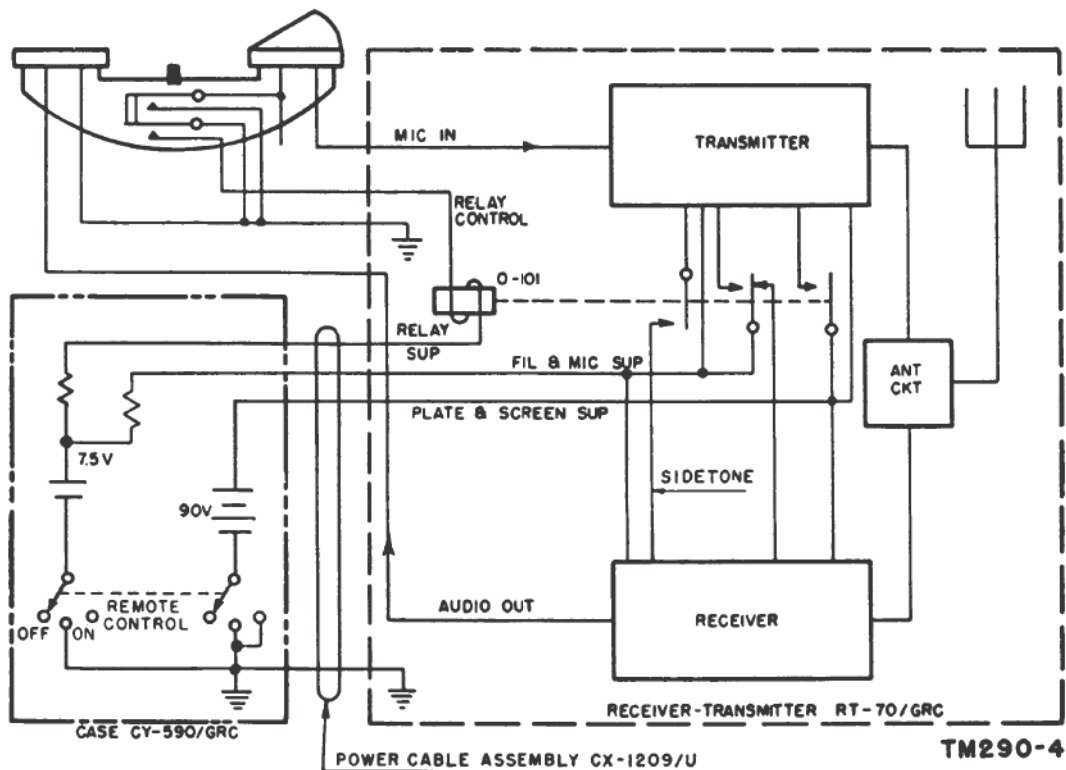
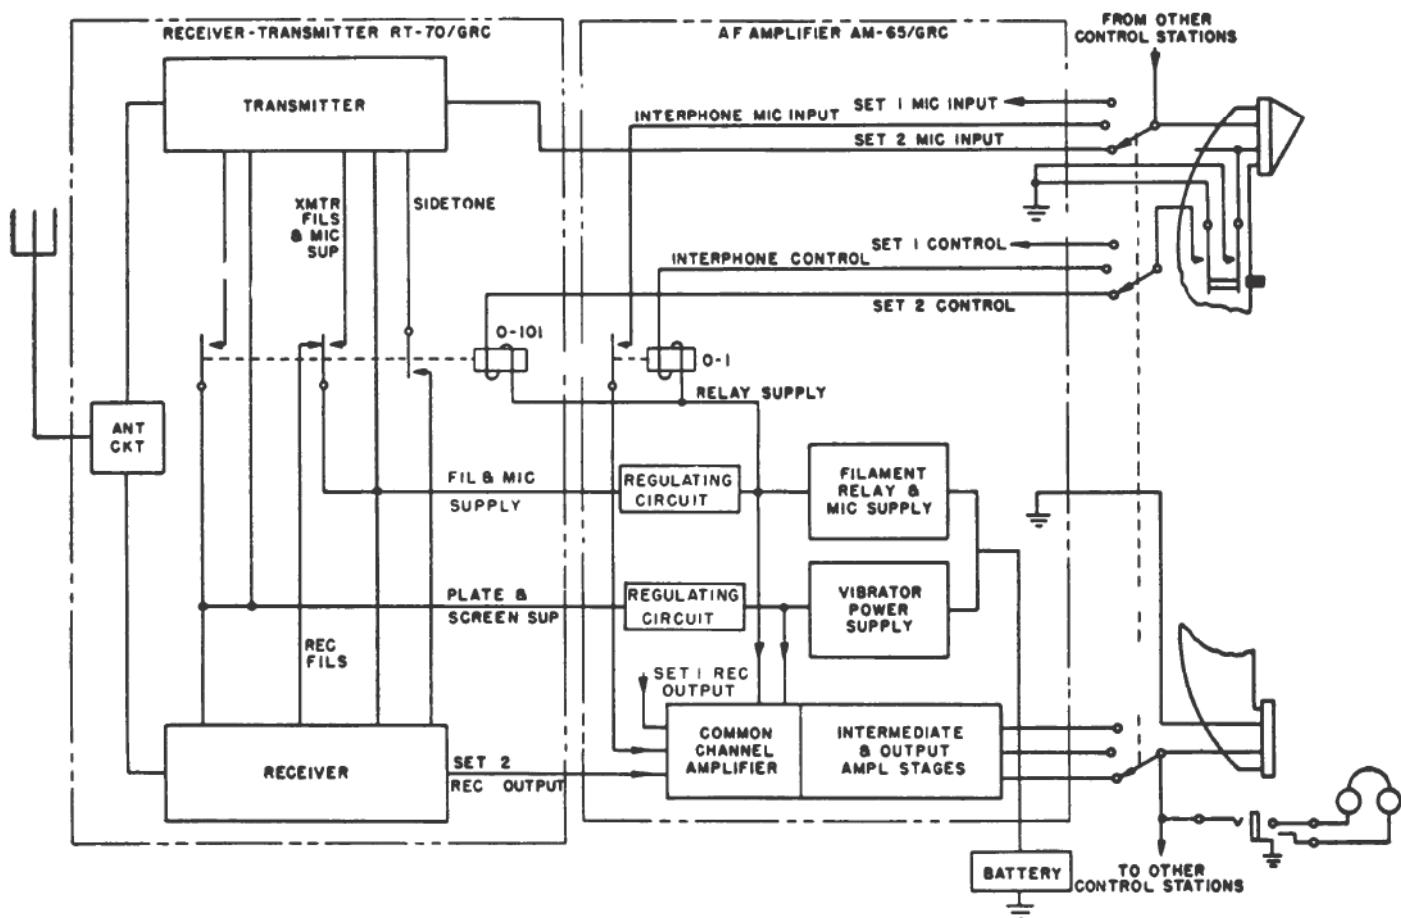

Figure 3. Application of Receiver-Transmitter RT-70(*)/GRC to Radio Set AN/PRC-16, simplified block diagram.
Figure 4. Application of Receiver-Transmitter RT-70(*)/GRC to Radio Set AN/VRC-7, simplified block diagram.
a. Receiver-Transmitter RT-70(*)/GRC may be used as a component of a portable field set such as Radio Set AN/PRC-16 (fig. 3), as part of a vehicular
installation such as Radio Set AN/VRC-7 (fig. 4), or as part of systems such as Radio Sets AN/GRC-3 through -8. The normal range of the receiver-transmitter is about 1 mile. Under favorable conditions of terrain, this range may be increased.
c. Figure 3 shows the manner in which Receiver-Transmitter RT-70(*)/GRC is associated with the other components necessary to complete a portable field installation, such as Radio Set AN/PRC-16.
- (1) The additional components necessary to complete Radio Set AN/PRC-16 include a set of dry batteries (90 volts and 7.5 volts) housed in a battery box, Case CY-590/GRC, a microphone with push-to-talk switch, a headset (both audio accessories must be equipped with 10-pin Connector U-77/U), an antenna, and a mounting plate. Power Cable Assembly CX-1209/U joins the control and power input circuits of the receiver-transmitter to the wiring and batteries in Case CY-590/GRC.
- (2) A microphone switch, and a control relay within the receiver-transmitter control, reception and transmission. A sidetone circuit routes a portion of the microphone audio energy to the audio circuits of the receiver for monitoring purposes.
d. The combination of Receiver-Transmitter RT-70(*)/GRC, AF Amplifier AM-65/GRC, Control Box C-375/VRC, Power Supply PP-448/GR, PP-281/GRC, or PP-282/GRC, and suitable mountings, cables, audio accessories, and other installation components may be used in the radio installation known as Radio Set AN/VRC-7. Figure 4 is a functional block diagram of this set. In this arrangement, the amplifier provides for monitoring the receiver output of Receiver-Transmitter RT-70(*)/GRC, and interphone channel between control stations, monitoring of the interphone channel, and all operating potentials for its own circuits and for those of the receiver-transmitter.